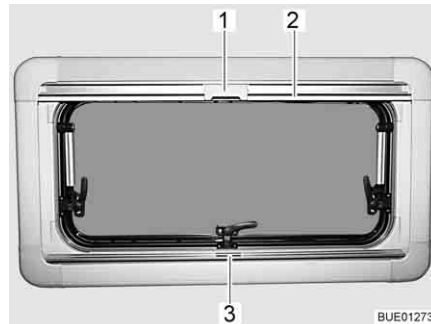

Fig. 107 Hinged window
Closing: ■ Grip the Roman shade in the centre of the holding bar (Fig. 107,3), pull it from the bottom to the top and then release it at the desired height. The Roman shade will stay at this height.
Closing: ■ Pull the insect screen down using the holding bar (Fig. 107,2), until it touches the holding bar of the Roman shade (Fig. 107,3).
■ Clip the catch (Fig. 107,1) on the insect screen into the handle of the Roman shade.
Opening: ■ Push the catch (Fig. 107,1) on the insect screen inwards.
■ Move the insect screen back slowly on the holding bar (Fig. 107,2).